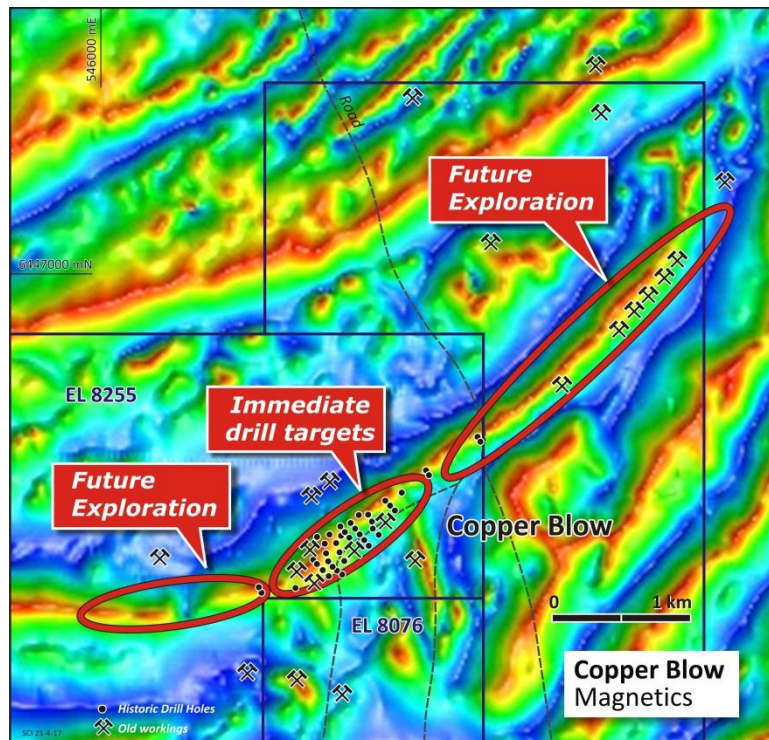

Figure 2. Diagram shows location of Copper Blow and areas where geophysical surveys have been initiated
The Company is currently conducting downhole electromagnetic (EM) surveys in the area of drilling and has commenced detailed magnetic and gravity surveys to track the prospective horizons along strike. Existing magnetic maps and historic RAB geochemistry suggest potential for copper mineralisation for a strike length in excess of 6 kilometres (Figure 2).